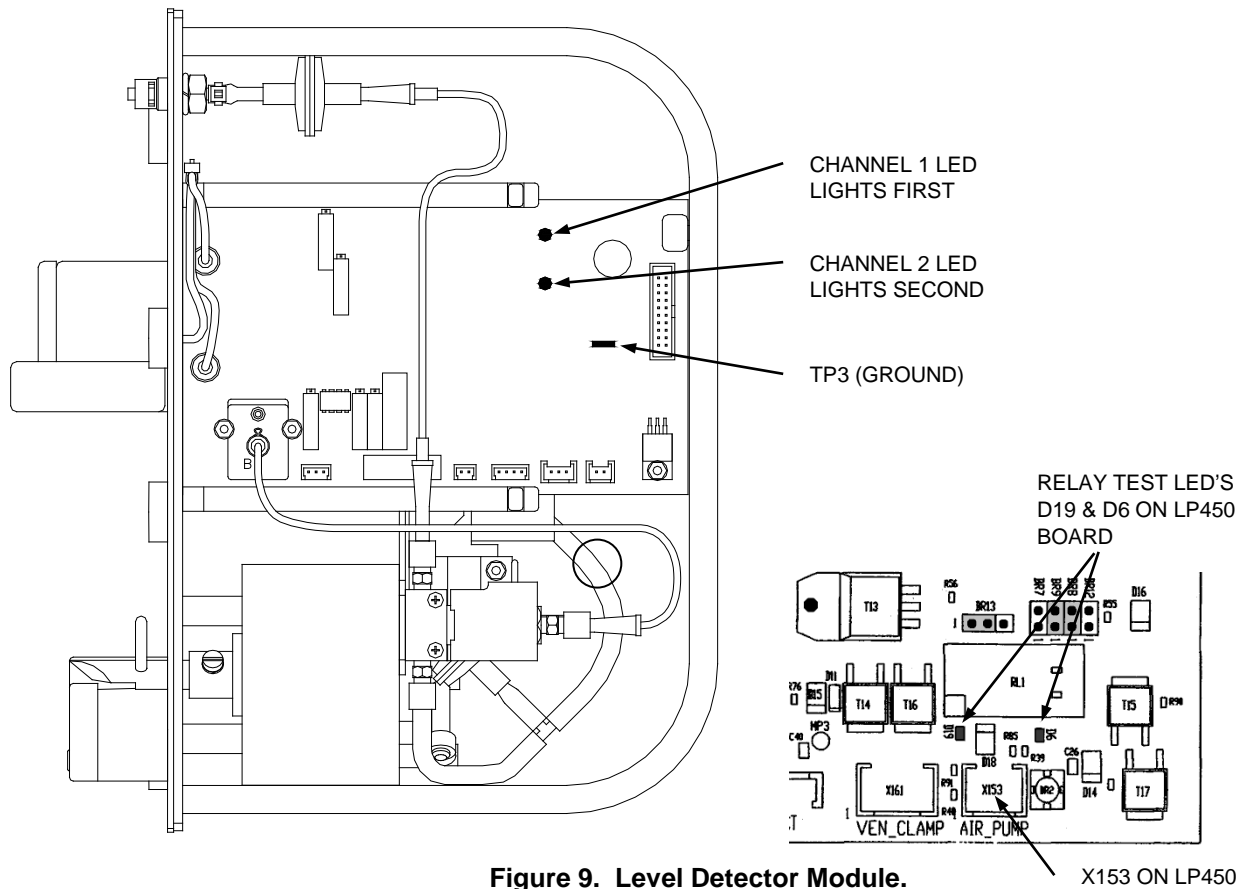

Figure 9. Level Detector Module.
3. Position the Level Detector so you can watch the Channel 1 and Channel 2 LED's on the circuit board (See Figure 9).
- 2 Locate the relay test LED's D6 and D19 on the LP450 board (see Figure 9).